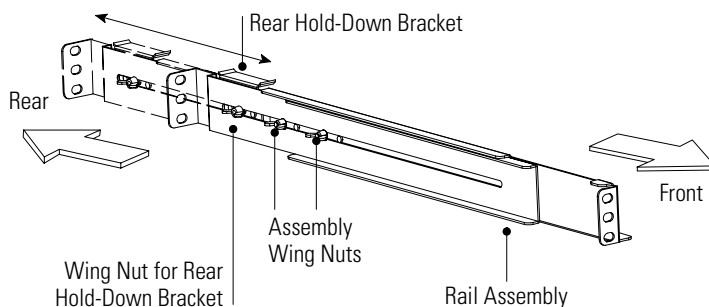

Figure 3. Adjusting the Rail Depth
3. Loosen the assembly wing nuts on both rail assemblies and adjust the rail size for the depth of your rack (see Figure 3).